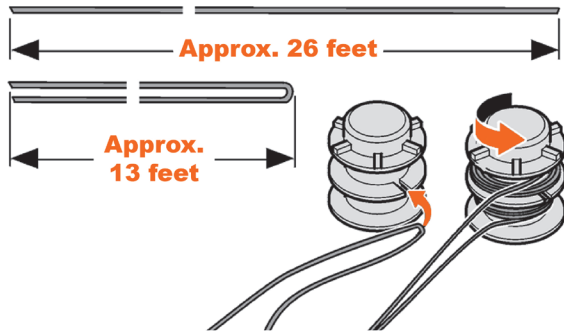

Figure 19
1. Insert the folding end of cutting line into the retaining lug of spool (see Figure 19).